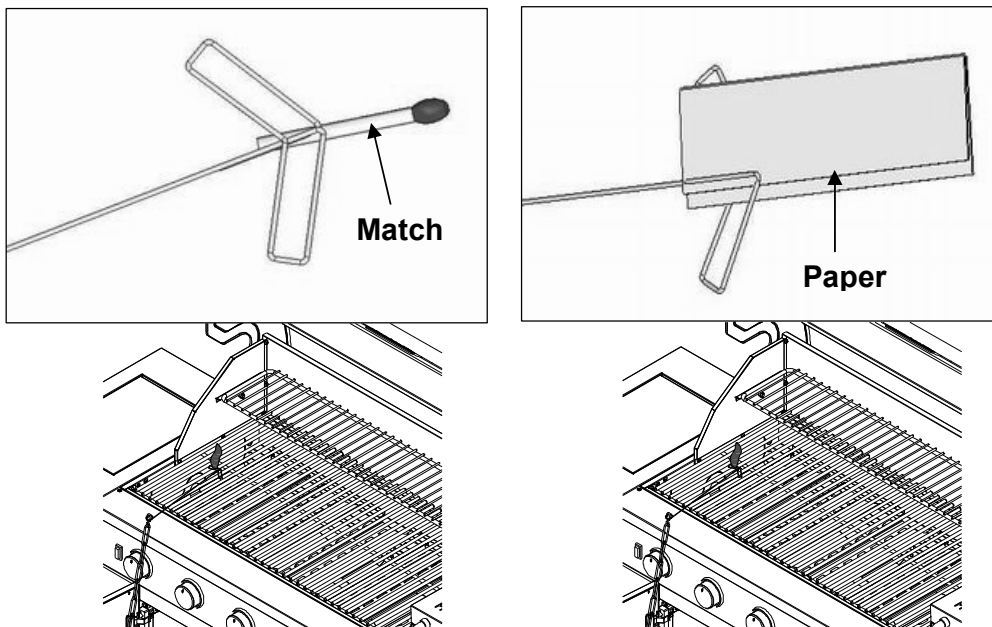

Fig. 38 Match/Paper Lighting Illustration
3. Attach either the match or paper to the clip shown in Fig. 38, light the match and insert it close to the ports of the burner, push and turn the depressed knob to the left to "HIGH" position.